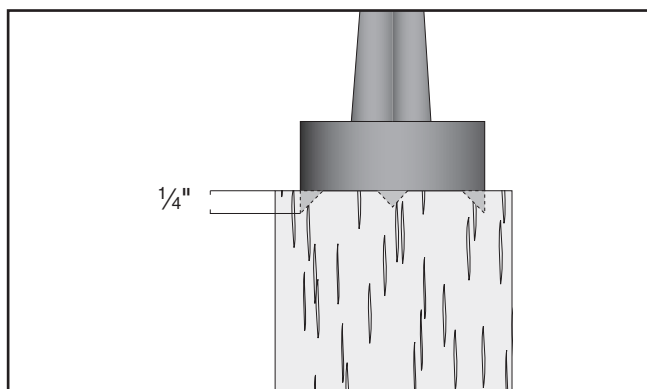

Figure 41. Spur center properly embedded.
6. Drive the spur center into the end center mark of the workpiece with a wood mallet to embed it at least $\frac{1}{4}$ " into the workpiece (see **Figure 41**).